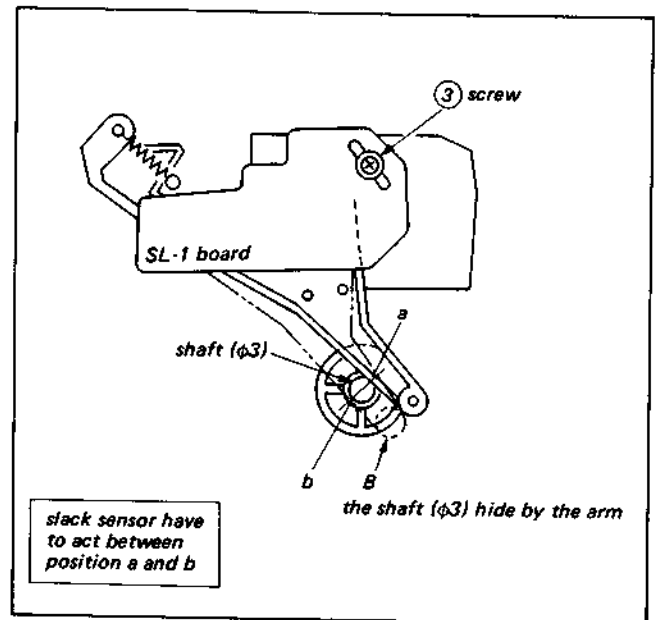

Fig. 3-26. Position adjustment of slack sensor operation
- 3) Adjust the position of SL-1 board so that the specification in Fig. 3-26.